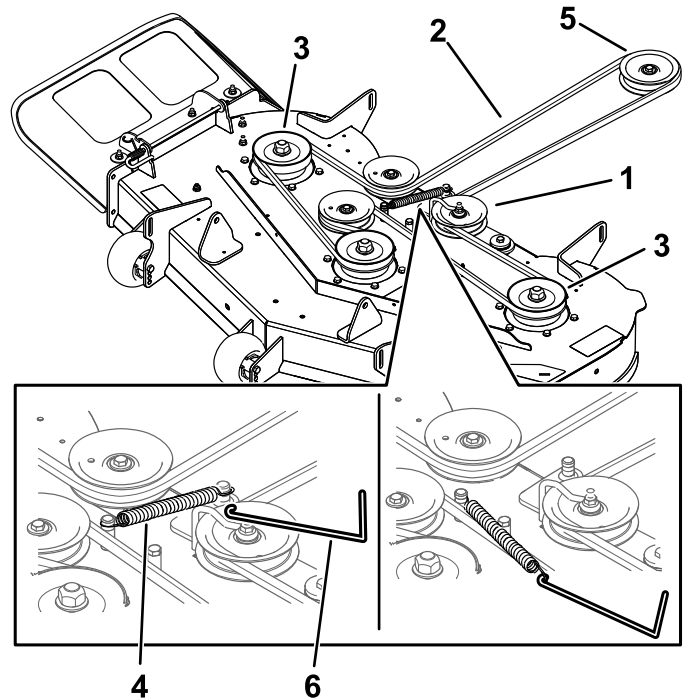

Figure 49
6. Route the new belt around the engine pulley and mower pulleys (Figure 49).
7. Using a spring-removal tool (Toro Part No. 92-5771), install the idler spring over the deck hook and place tension on the idler pulley and the mower belt (Figure 49).
5. Using a spring-removal tool (Toro Part No. 92-5771), remove the idler spring from the deck hook to remove tension on the idler pulley and roll the belt off the pulleys (Figure 49).